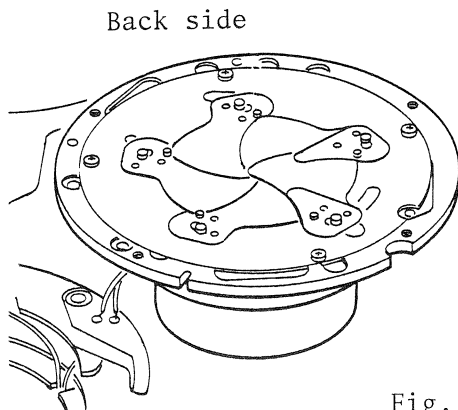

Fig. 5
- 2) Assembled shutter-sector pattern will be shown in Fig. 5 and 6.